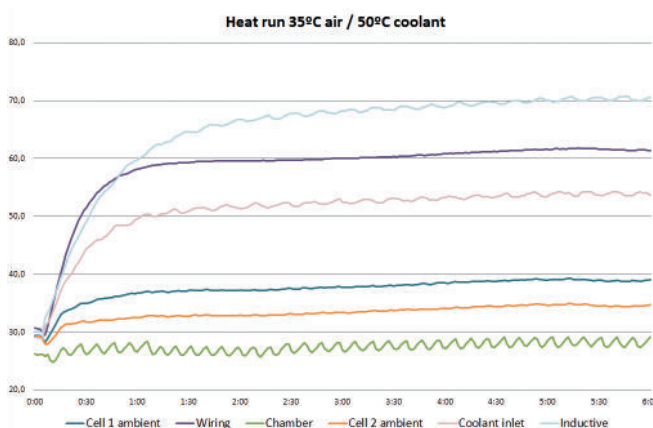

Figure 5: Heat run test
- Heat run tests: the thermal behaviour of the converter is assessed, setting maximum current values and the worst temperatures. The whole range for both operation temperatures and for external ambient and external cooling system is covered. See Figure 5.